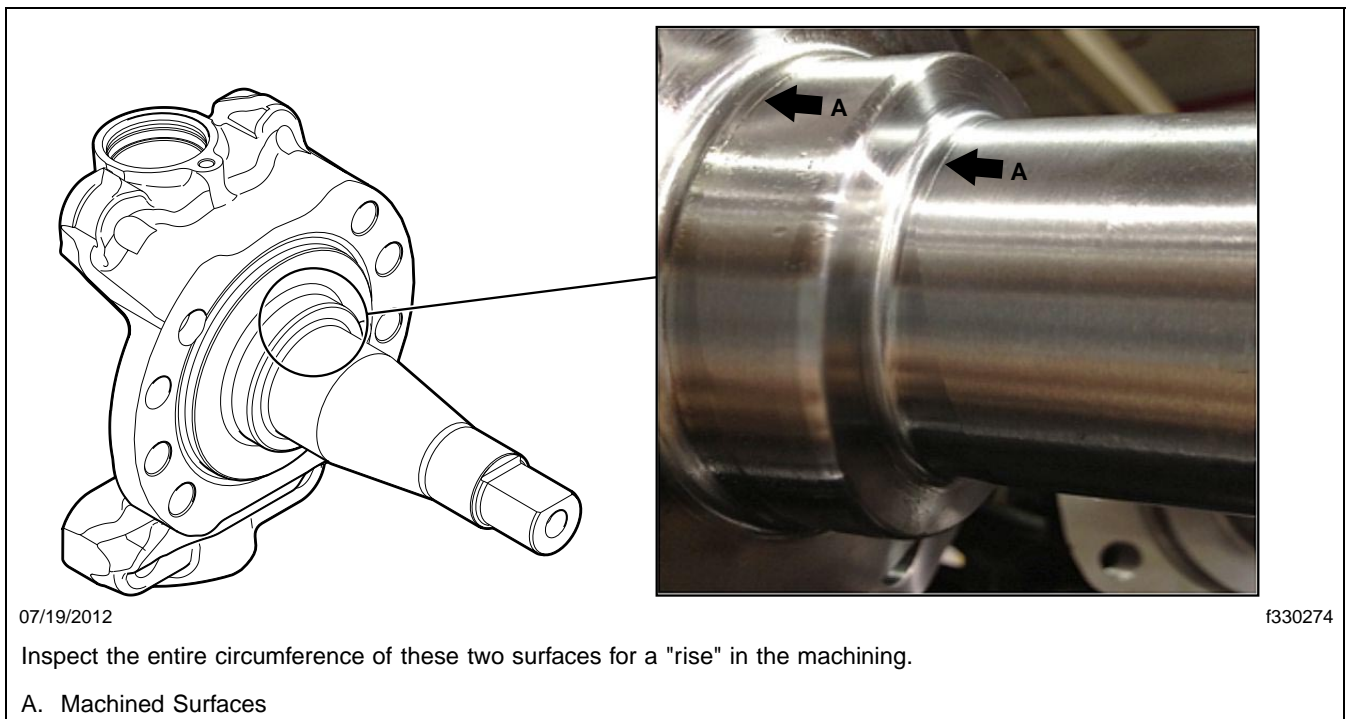

Fig. 1, Inspecting the Steering Knuckle
- Using a blade or putty knife, inspect the entire circumference of the machined surfaces of the inner wheel bearing race interface area and the seal contact surface area at the base of the spindle for a machining irregularity. See **Fig. 1**.